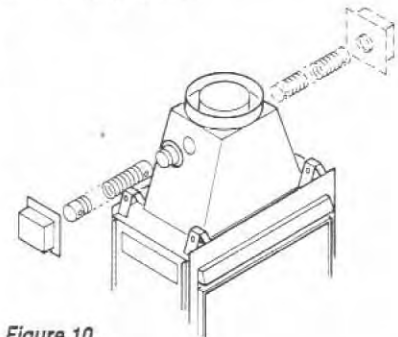

Figure 10
**Step 6.** Attach the 4" (102mm) collar from the CAK-4 air kit over the grill on the closed end of the transition, using the two (2) screws mounted on the transition (Figure 10).